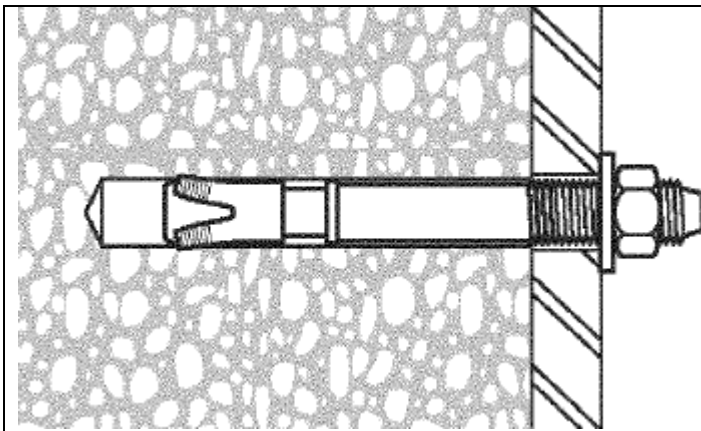

Figure 15. Stud Anchor Installation
- Use two $\frac{3}{8}$ " Dia HILTI KB3 Expansion Anchors or approved equivalent bolts (min. embed. 3"). See Figure 15. Stud Anchor Installation. Also see HILTI technical document ESR-2302 for additional concrete anchoring information.